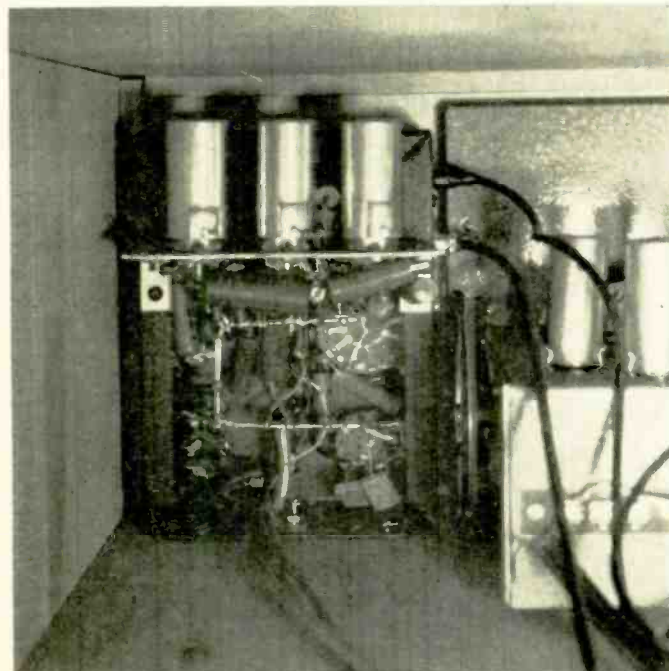

Fig. 5. Rear view of the control unit in place alongside the tuner. Note solid ground bus wire in shape of a reclining U.
The chassis of the preamplifier is a frame 5 by 7 by 2 deep, the face of it in crinkle black finish. To the back of it was added a rigid 5 by 2 sub-chassis, mounted across the width and about 3 in. from the top, to carry the three twin-triode tubes. Two are 12AX7's, of which one is for phono preamplifier and record equalization, the other for tone control. And a 12AU7 tube is for cathode follower output. Fig. 5 shows a rear view of the unit in place.
2. Put in ground wiring. This is buss wire, visible as a U-shaped arrangement in Fig. 5, parallel to and below the tube mounting bracket.